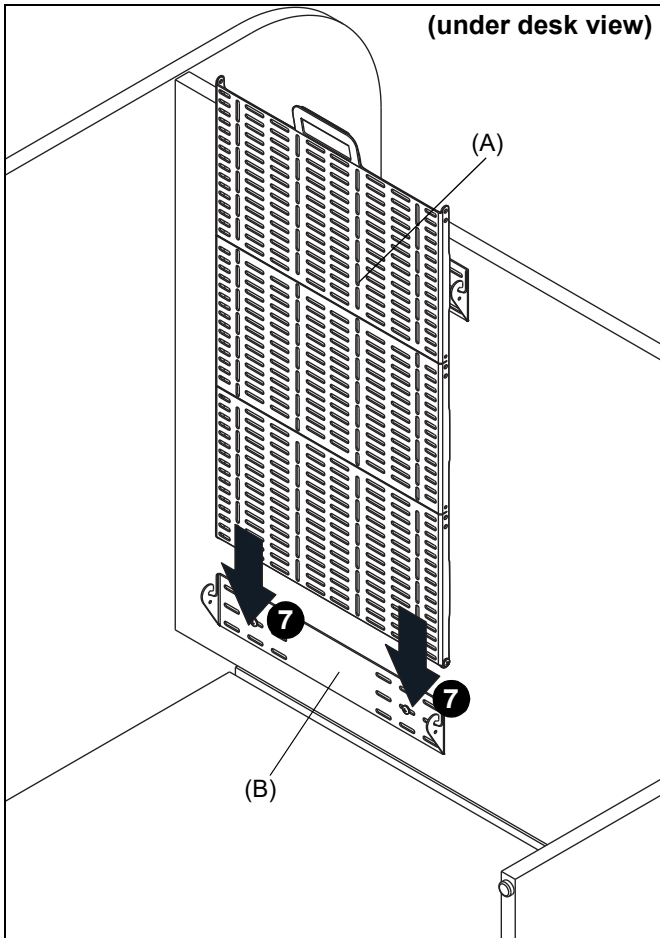

Figure 5
7. Slide accessory desk plate (A) onto back desk bracket (B) until two screws (C) or (E) sit in slots of bracket (B). (See Figure 5)